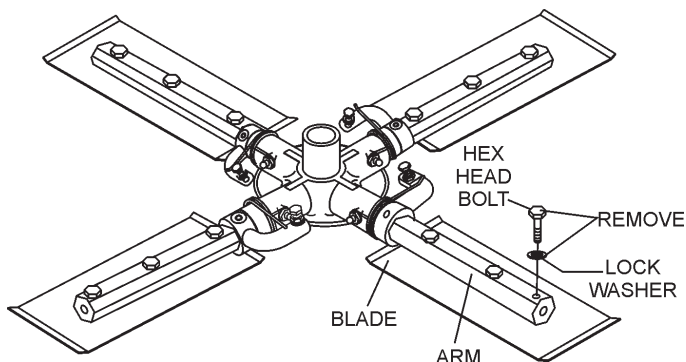

Figure 43. Trowel Blades
- Remove the trowel blades from the trowel arm by removing the three hex head bolts (Figure 43) from the trowel arm. Set blades aside.